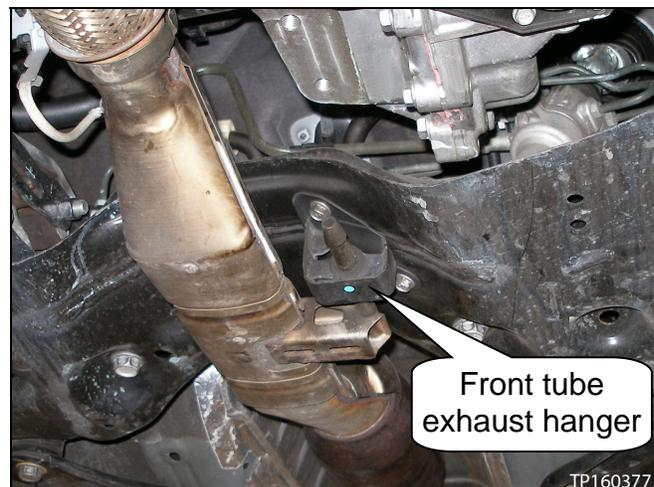
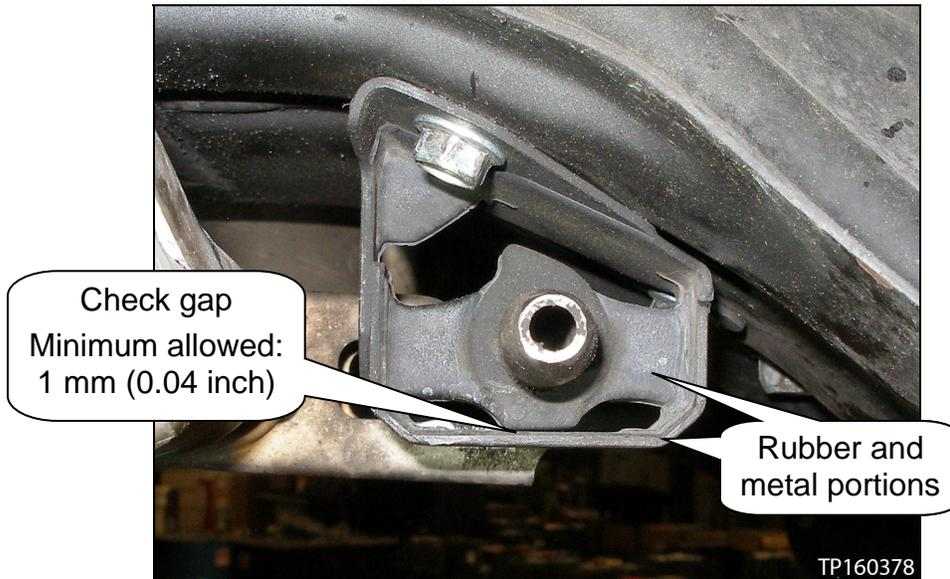

Figure 1
Figure 2
1. Check the gap between the rubber and metal portions of the front tube exhaust hanger (see Figure 1 and page 2, Figure 2).
2. If less than 1 mm (0.04 inch) gap, add shims (flat washers) between the front suspension member and front exhaust tube hanger. See page 2, Figure 2 and 3.